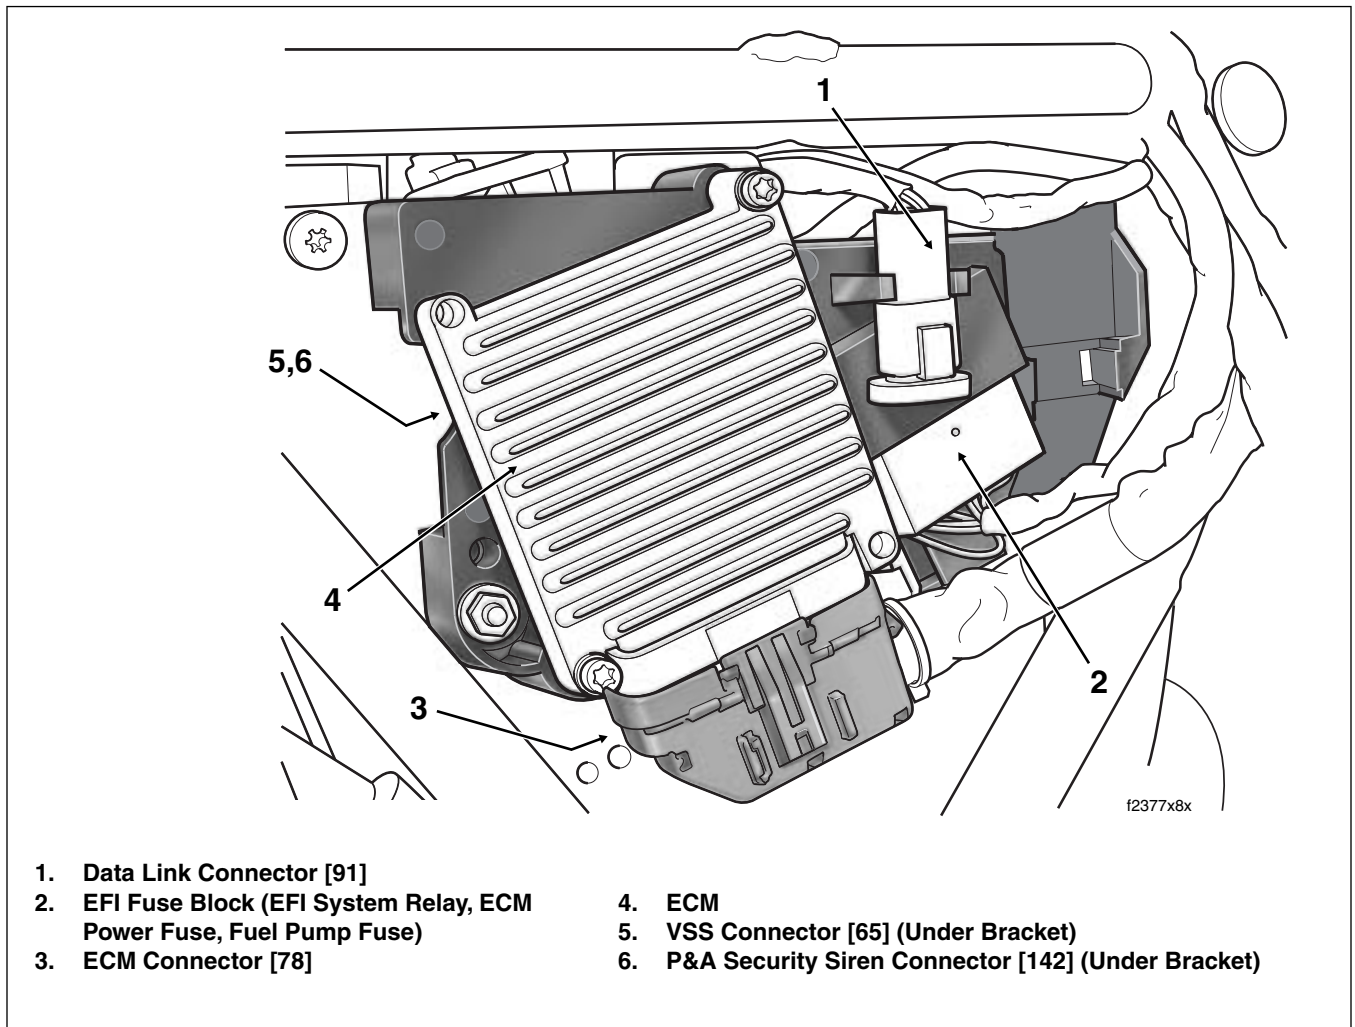

Figure 9-2. Electrical Bracket Assembly
4. Gently pull on data link connector [91] to disengage from arms on electrical bracket. See Figure 9-2.
3. Depress external latch and use rocking motion to remove ECM connector [78]. See Figure 9-2.
1. Align holes in ECM with those in electrical bracket. Install two socket screws and tighten to 50-60 **in-lbs** (5.7-6.8 Nm). See Figure 9-2.
3. Gently pull on data link connector [91] to disengage from arms on electrical bracket. See Figure 9-2.
5. Depress external latch and use rocking motion to remove ECM connector [78]. See Figure 9-2.
4. Align holes in ECM with those in electrical bracket. Install two socket screws and tighten to 50-60 **in-lbs** (5.7-6.8 Nm). See Figure 9-2.